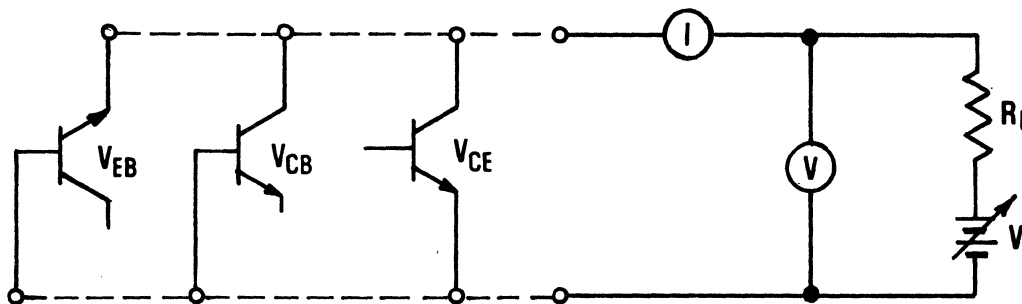

Figure 4.4 Transistor Blocking Voltage Test Circuit
5. Transistor blocking voltage and gain test circuits (see Figures 4.4 and 4.5)
**Transistor Blocking Voltage Test Circuit**—The voltage capability of a transistor is measured using the circuit in Figure 4.4. The transistor is connected in one of the three desired modes (i.e.,  $V_{CE}$ ,  $V_{CB}$  or  $V_{EB}$ ). The